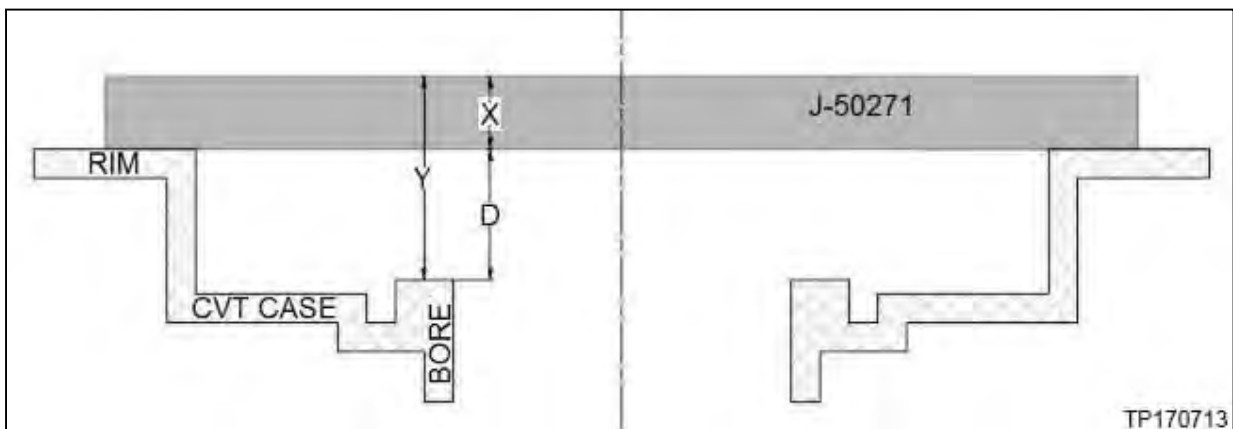

Figure 133
HINT: If Gauge Block J-50271 is not used, the thickness of the substitute measuring bar (measurement "X") will need to be measured. (Figure 133, page 64). This can be done either with a set of calipers or with Digital Depth Gauge J-50272.
105. Measure the average distance (Y) shown in Figure 133 as follows:
- Refer to Figure 131, Figure 132 and Figure 133, then proceed to page 65.